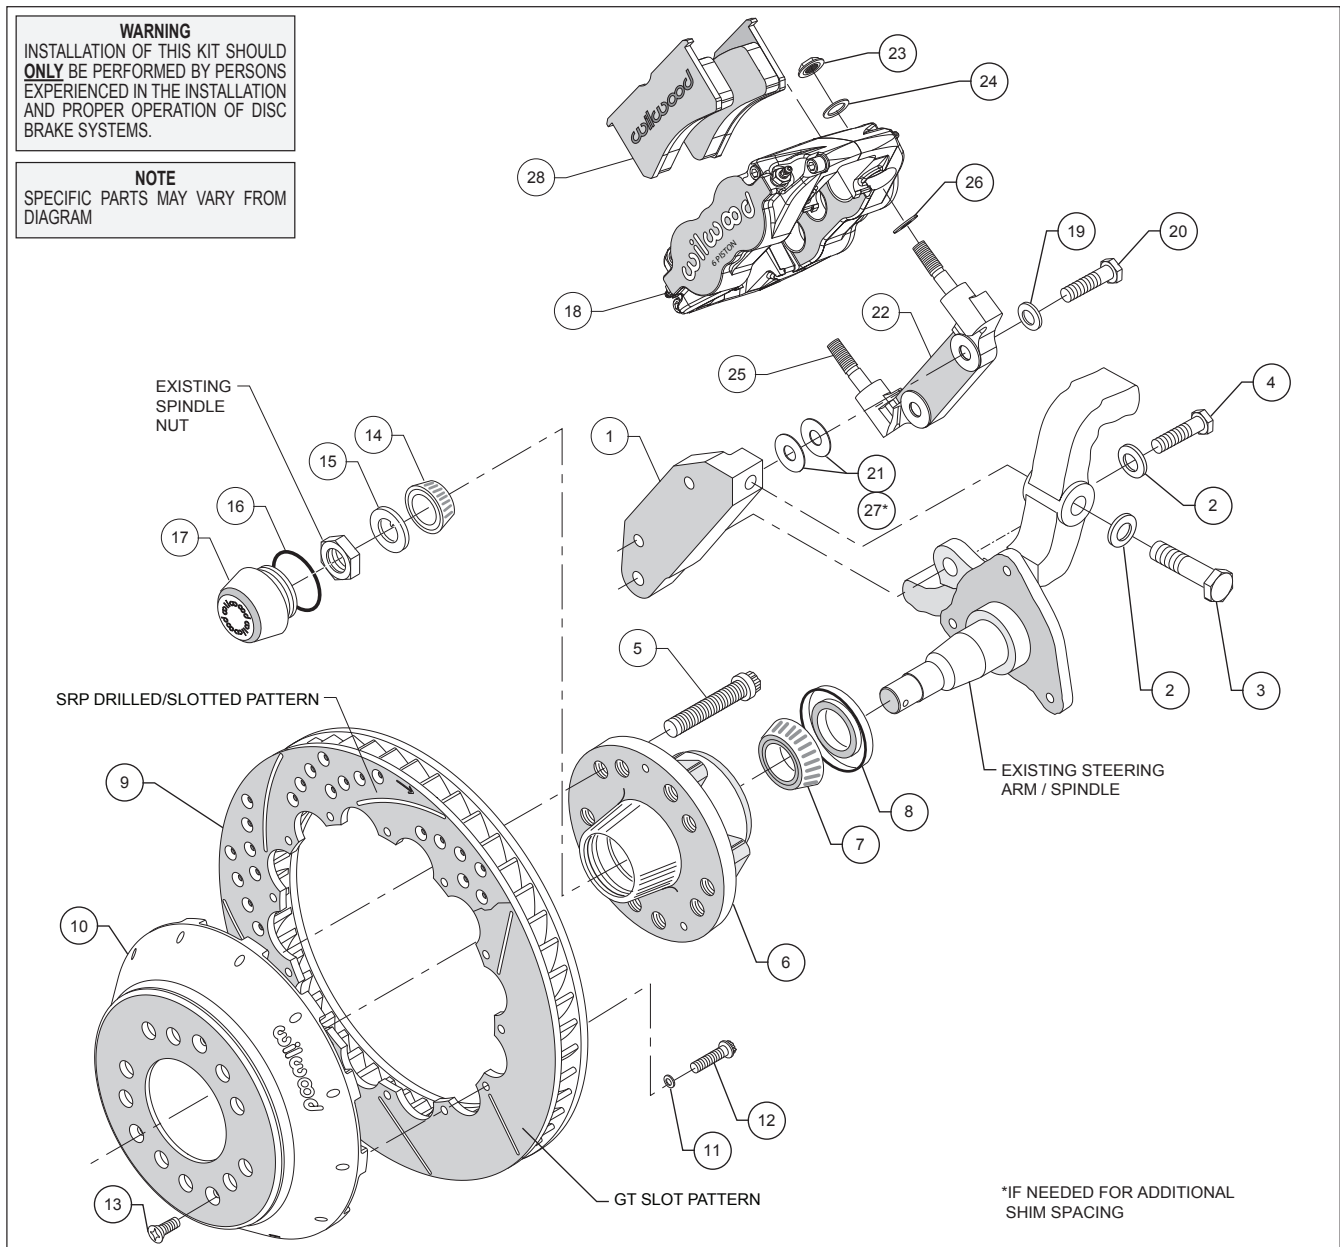

Figure 1. Typical Installation Configuration
•Mount the radial mount caliper bracket (22) to the first "flat" caliper mounting bracket (1) from the far side using washers (19) and bolts (20), as shown in Figure 1. Initially place two .030 thick shims (21) between the two brackets (1 and 22). Temporarily tighten the bolts.
•**NOTE:** This kit contains distinct right and left hand calipers that must be mounted in a specific direction, as described below. Lubricate the caliper mounting studs (25) with lightweight oil. Initially place one .035" thick shim (26) on each stud as shown in Figure 1. Mount the caliper (18) onto the bracket (1) using lock nuts (23) and washers (24), Figure 1. Ensure that the caliper is mounted so that the largest pistons are at the rotor exit end of the caliper, in relation to the direction of rotor rotation. Temporarily tighten the lock nuts and view the rotor through the top opening of the caliper. The rotor should be centered in the caliper. If not, adjust by adding or subtracting .030" shims (21), or add .015" thick shims (27), as necessary between the radial mount bracket (22) and the flat bracket (1). Always use the same amount of shims on each of the two mounting bolts. Once the caliper alignment is correct, remove the bracket mounting bolts (20) one at a time, apply red *Loctite*® 271 to the threads, and torque to 42 ft-lb.